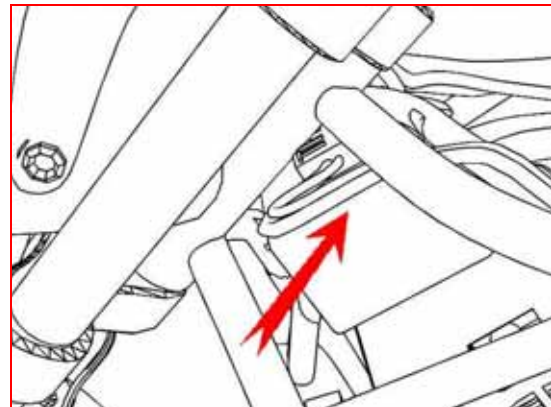

Fig 15
15. Pull any excess slack in the TFI harness back to the front. (See figure 15)